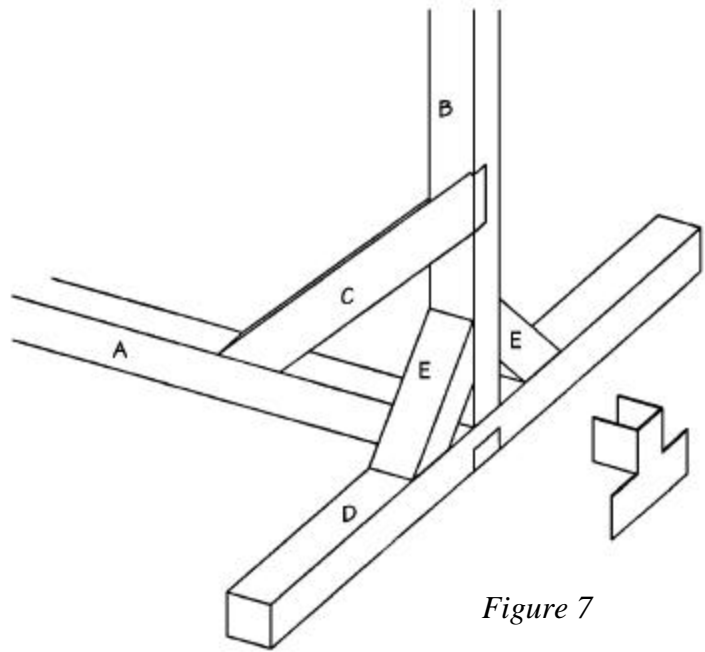

Figure 7
4. Refer to *Figure 7* to complete the final steps of assembly. Place the upright (B) directly over the dado joining the footing (E) and the crosstie (A). Fit the free end of the front brace (C) into the diagonal dado cut in the crosstie (A). *Do not secure the joint yet.*
5. Place the metal back plate, “T” down, over the joint between the upright (B) and the footing (D), so that the side brackets extend around the upright. Screw the back plate to the footing using 2”-long screws through the back plate into the footing.